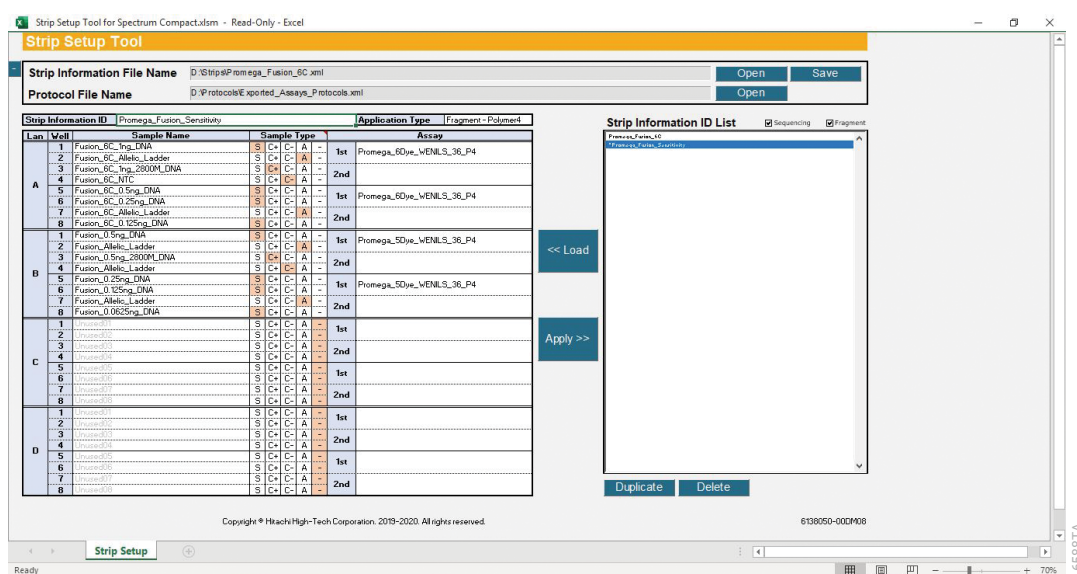

Figure 220. Strip Setup Tool for Spectrum Compact with new strip in Strip Information ID List.
5. Select **Apply** to move the newly created strip information to the 'Strip Information ID List'. The name of the newly created strip will appear in this list (Figure 220).